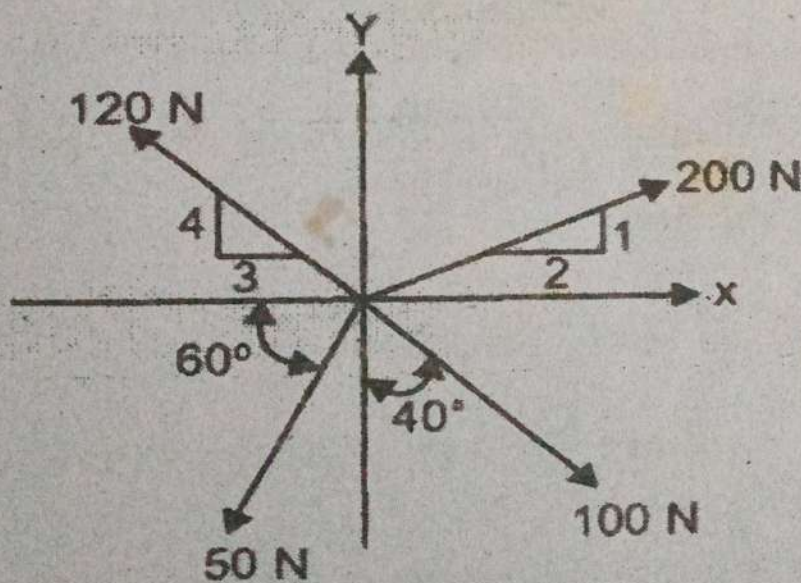

Fig. 2
3. A system of four forces acting on a body is as shown in Fig. 2. Determine the resultant.